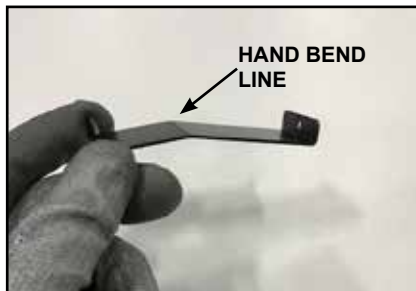

Figure 4 Bracket
4. Attach surround to the insert with four screws (located in appliance manual bag). See Figure 4. When installing a 4-sided surround, install shoulder screws in bottom corners of surround opening. Bend tabs on vanity panel toward the 90° return bend and hang on shoulder screws. See Figures 5 and 6.
**Note:** When being used with 4-sided surround, bend bracket approximately 15° at the hand bend line to avoid contact with vanity panel. See Figure 4.